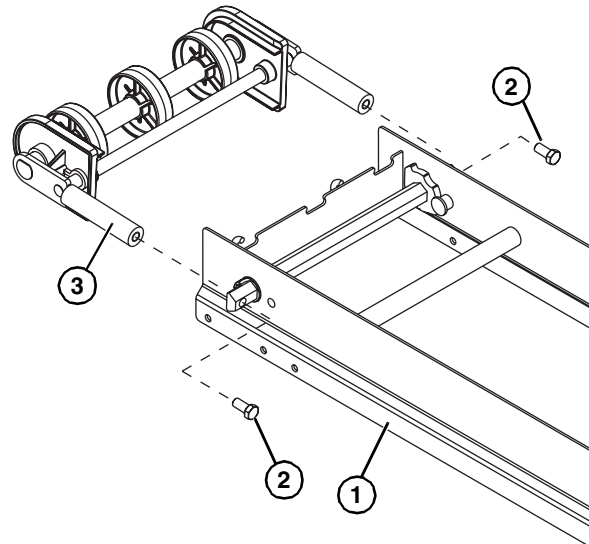

**Figure 20**
3. Ensure that the nose bar pucks (**Figure 20, item 1**) are in line with the conveyor frame (**Figure 20, item 2**).